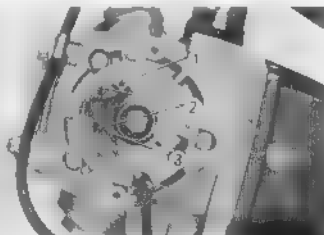

Fig. 5.5 Adjusting the point clearance
- b. Turn the generator rotor counter-clockwise to the point where the breaker points are at maximum opening. The normal gap ① is 0.3 to 0.4 mm (0.012~0.016 in). If adjustment is necessary, loosen the two breaker arm adjusting screws ② and move the stationary breaker point by inserting a screwdriver into the adjusting slot to obtain the proper gap and then retighten the screws. (Fig. 5.5)